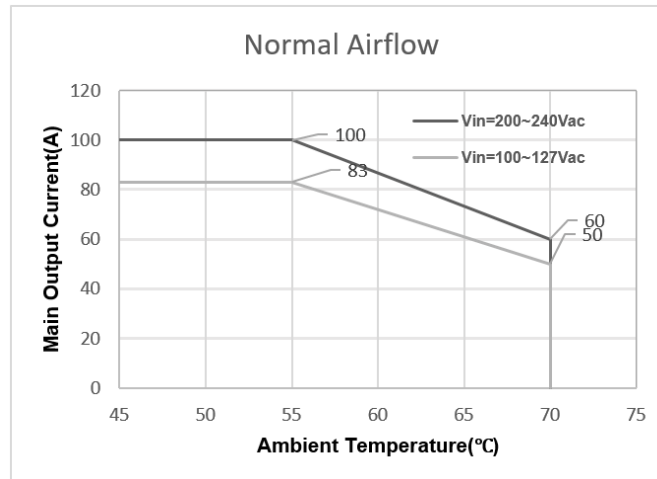

Figure 9 Iout derating with temperature (Normal airflow)
1. Refer to figure 9 for normal airflow lout derating with temperature